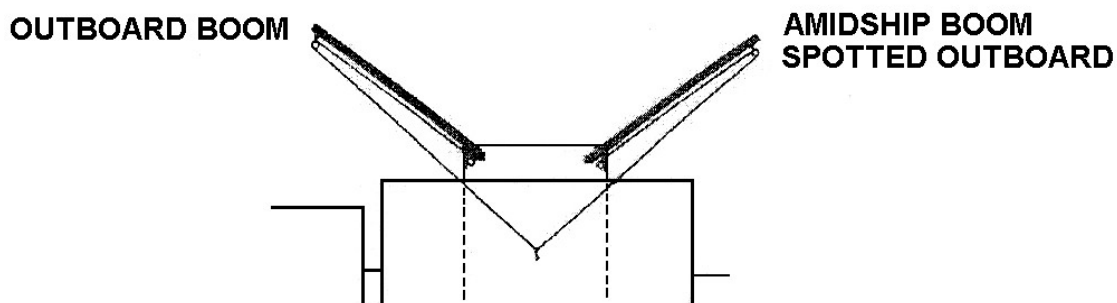

Figure 3-133
3. Direct the rigging of a wing-and-wing rig (see Figure 3-133).